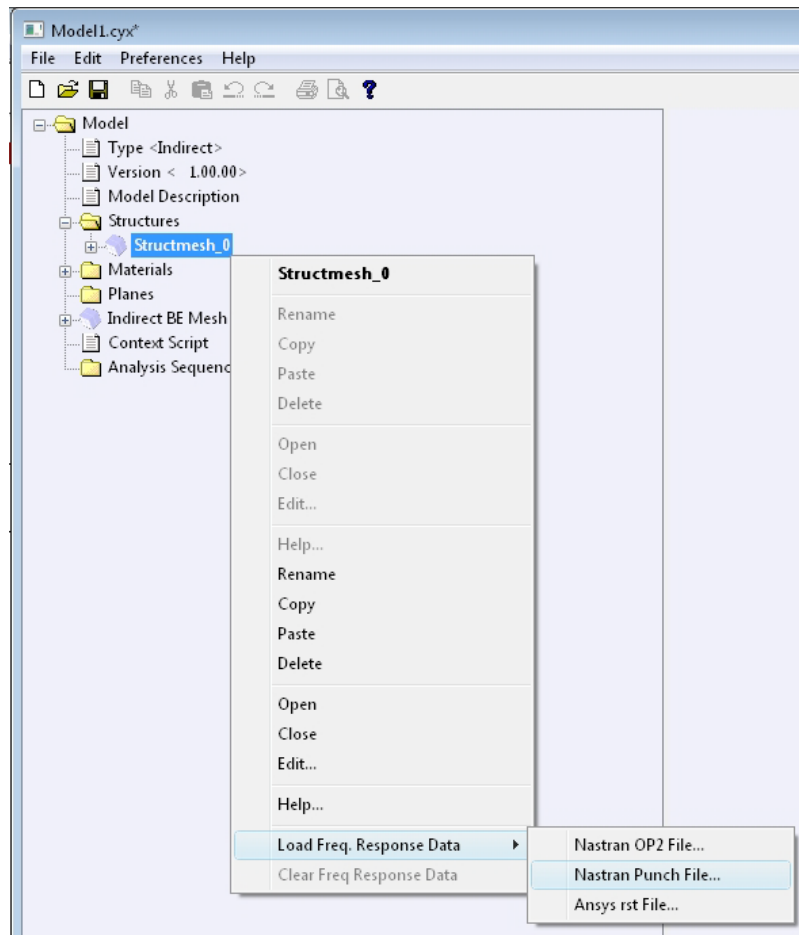

Figure A.30 Load frequency response data into Coustyx.
- Right-click on **Structmesh_0** or *<Struct Mesh Name>* and select: **Load Freq Response Data** → **Nastran Punch File...** (as shown in Figure A.30). The other valid data formats from which frequency response data can be loaded into Coustyx are **Nastran OP2 File** and **Ansys rst File**.